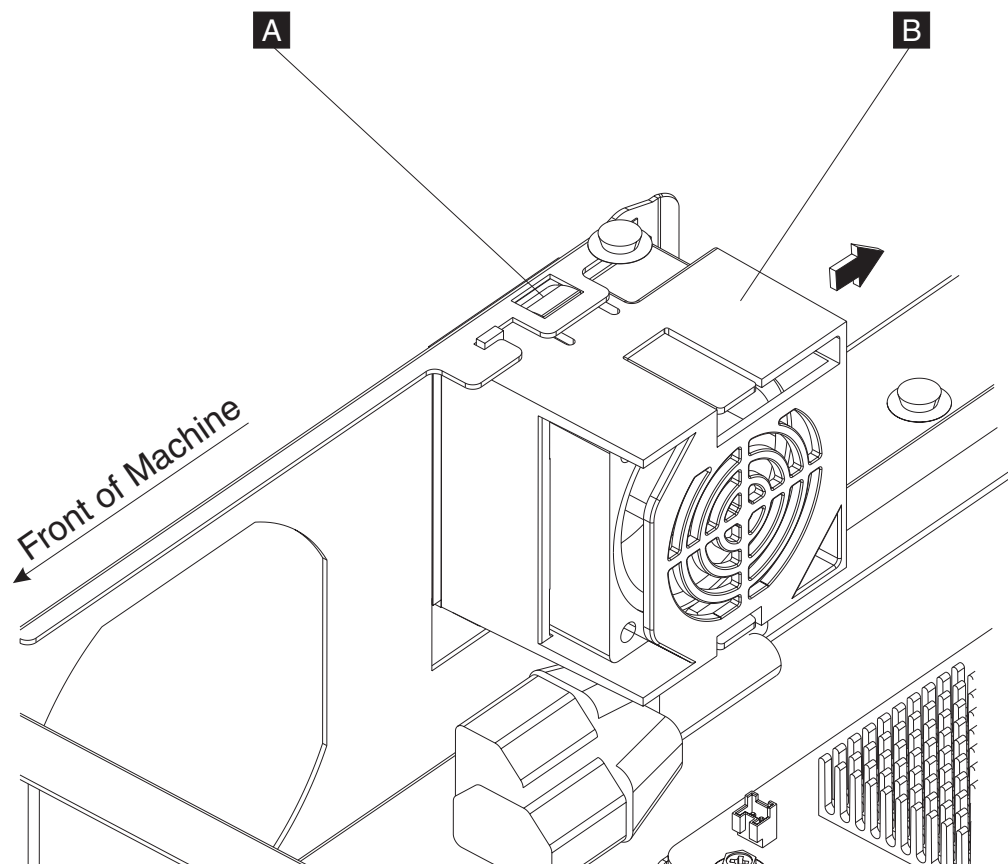

Figure 30. Removing the chassis fan with duct
3. Push down on the duct lock tab (**A** in Figure 30 on page 43) and slide the chassis fan duct (**B**) towards the rear of the system. Its upper tab and lower tabs will slide out of the slots on the pullout tray sidewall, which lets you pull it from the openings in the slots.